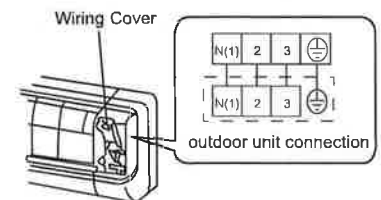

Fig.2
2. Remove the wiring cover. Connect and fix the power connection cord to the terminal board as shown in Fig.2.